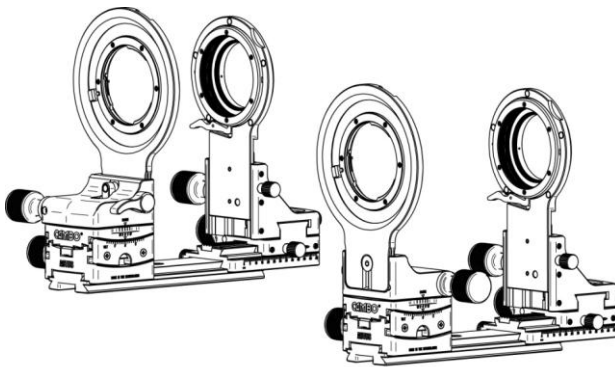

Figure 10: Rotating the swing element and lens panel 180° degrees
You can change the rail of the Actus¹⁰. Before you can slide off the rear standard you need to remove the screw indicated as [4] in figure 10 (M2x4 DIN 912). Slide the rear standard [2] until hole [7] and screw [4] align, now you can access and remove the screw using an Allen key (1,5mm). Place the rear standard on the other rail, align hole [7] with hole [3] and screw in screw [4].